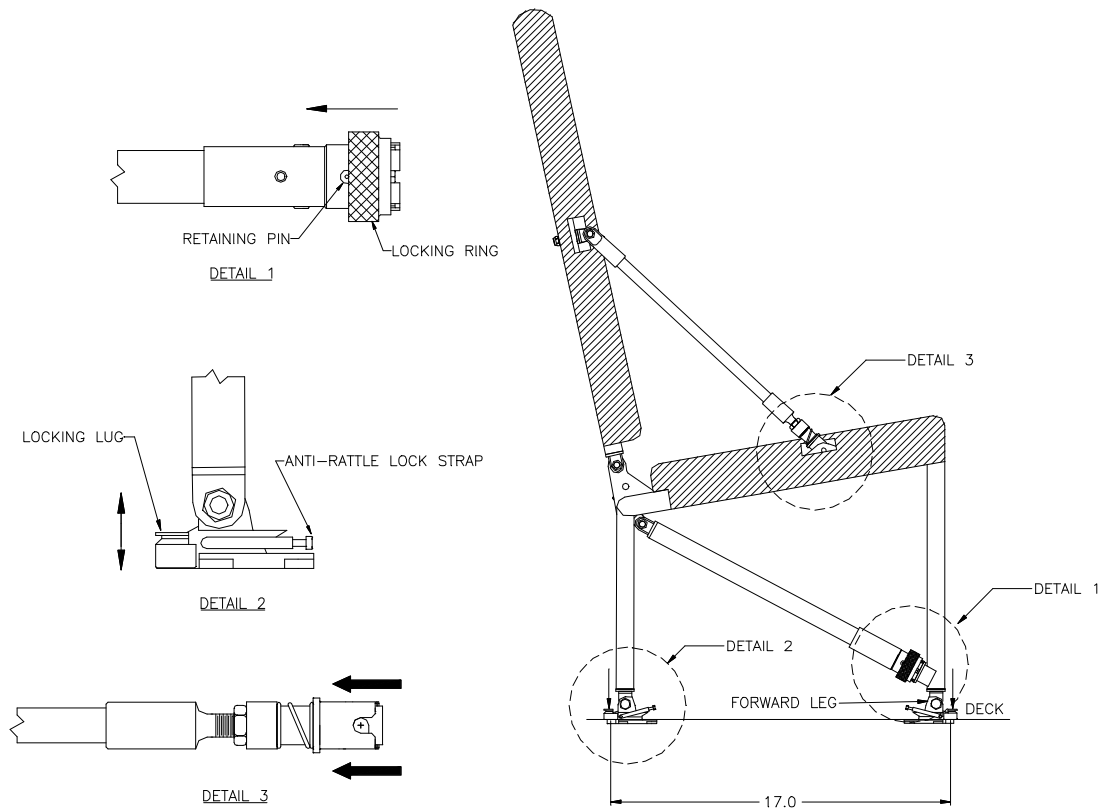

Figure 2.1 Seat Installation
2.1 Setup and Installation (see Figure 2.1):
1. Unfold forward leg and lower diagonal arms. On each lower arm quick-release fitting, push in the retaining pin and retract the locking ring (Detail 1, Figure 2.1). Position the diagonal arms to align fittings with studs on forward legs. Push forward leg back to engage studs in fittings, then extend locking rings to close jaws.
2. Unfold seat back and upper diagonal arms. Position the arms so the quick-release fittings are over the corresponding pins on the seat frame. Retract the spring-loaded collar on one fitting, push the fitting over the pin, then release the collar. Repeat for the opposite side (Detail 3, Figure 2.1)
3. Unfold rear legs and position the seat over the seat tracks at the desired fuselage station. Drop the forward feet into the tracks (locking lugs must be in the retracted position), slide forward or aft 1/2 inch, and push the locking lugs down to lock the forward feet into the track (Detail 2, Figure 2.1).